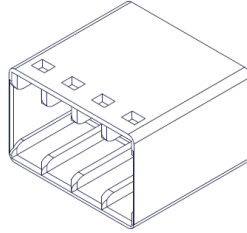
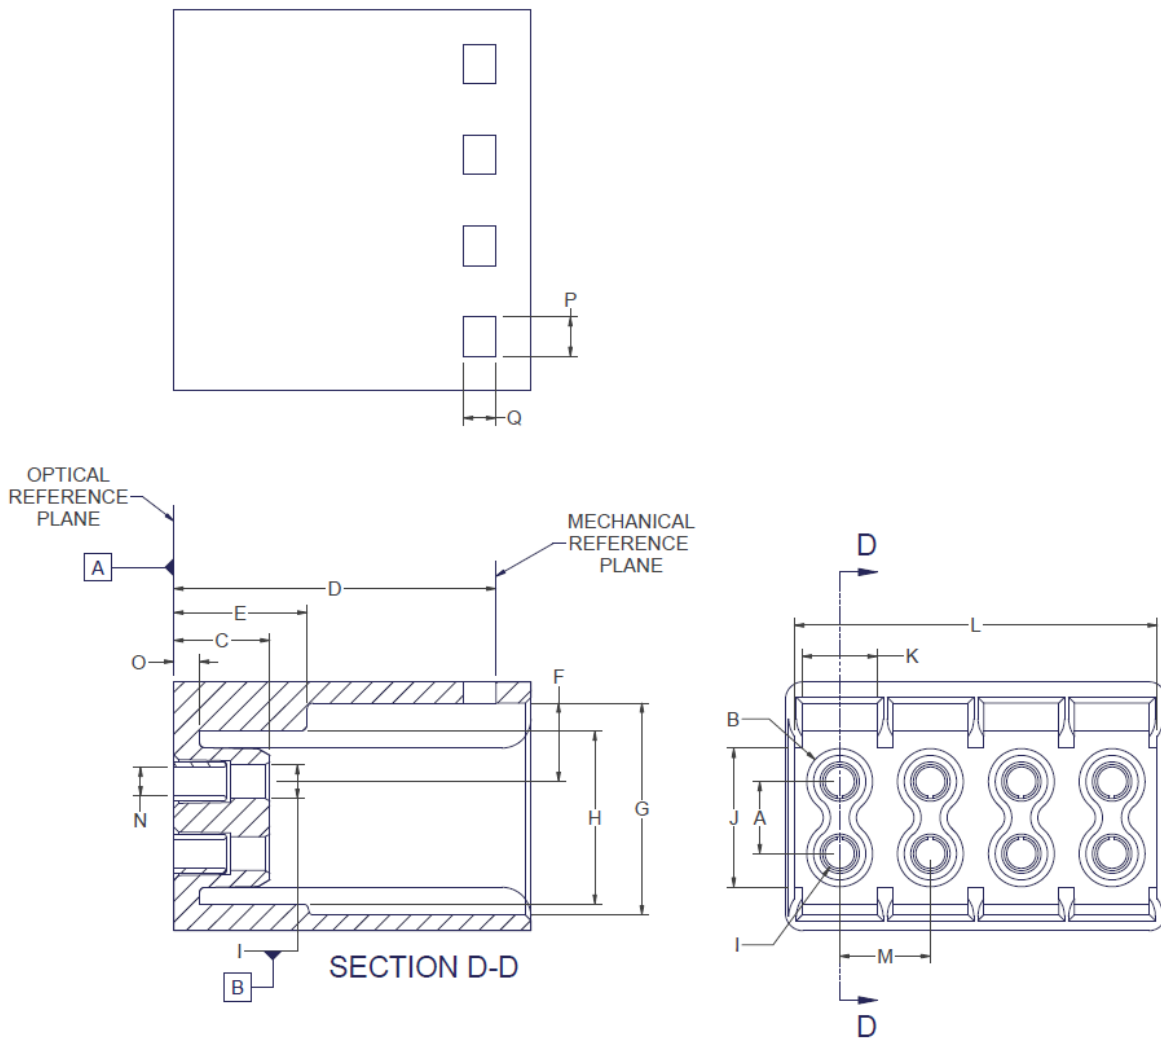

Figure 3.1: MDC Receptacle for OSFP or QSFP-DD Module Applications
Figure 3.2 – MDC Receptacle Interface (OSFP or QSFP-DD)
The MDC receptacle for OSFP or QSFP-DD module applications (Figure 3.1) will allow access for up to (4) MDC two-fiber optical connectors. Receptacle interface diagram and dimensions are provided in Figure 3.2 and Table 3.3 below.